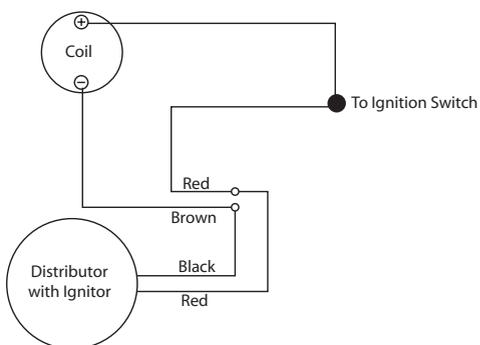

Figure 1 (IGNITOR WIRING)
- Attach the black Ignitor III wire to the brown wire previously connected to the external control module. The brown wire should then connect to the negative terminal of the coil. (See Figure 1)
- Attach the red Ignitor III wire to the original red wire previously connected to the external ignition module. This original red wire should provide full 12 volts when the key is turned on. (See Figure 1)